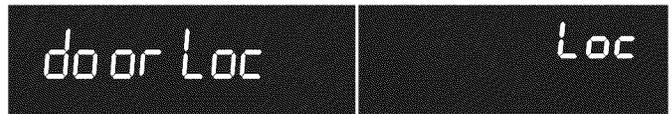

Figure 18: Display showing door locking and in locked position
2. Press and hold **Oven Lockout** for 3 seconds. **door Loc** will appear in the display (Figure 18). The motor driven door latch mechanism will begin locking the oven door automatically. Do not open the oven door. Allow about 15 seconds for the oven door to completely lock. Once door is locked, **Loc** will appear in the display.